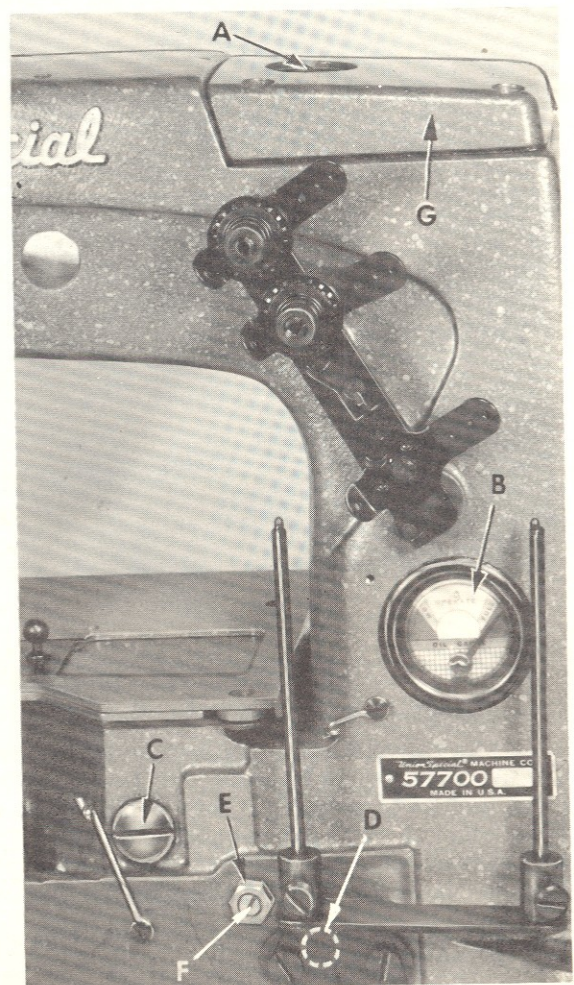

Fig. 2
Use a straight mineral oil of a Saybolt viscosity of 90 to 125 seconds at 100° Fahrenheit in the main reservoir. This is equivalent to Union Special specification No. 174. Fill main reservoir at plug screw in upper crank chamber cover (A, Fig. 2) and check oil level at gauge (B). Oil is at maximum level when needle is in yellow band marked "Full". Oil should be added when needle is in yellow band marked "Low".
Oil may be drained from main reservoir by removing plug screw (C, Fig. 2) located below the cloth plate at front of the machine.
2. Remove the oil reservoir plug screw (C, Fig. 2) and tip machine forward to drain oil from the reservoir.
5. Fill main reservoir to a level even with the bottom contour of the knee press shaft bushing (D, Fig. 2).
6. Loosen lock nut (E) on calibrating screw (F), and turn the screw to the left or right until the gauge needle rests in the middle of the yellow band marked "LOW".
7. Tighten lock nut (E) and replace plug screw (C).
Remove the head cover and upper crank chamber cover (G, Fig. 2). Check position of needle lever bearing oiler (A, Fig. 3) located inside the arm casting, below the upper crank chamber cover, which lubricates the needle lever stud (B). Make sure it is tilted downwardly and that its delivery end (C) contacts the inside wall of the bed casting at the back, just above the notch of the needle lever shaft stop collar. (Do not allow the oiler to rest on the needle lever). Allow $1/64$ inch clearance as in Fig. 3.